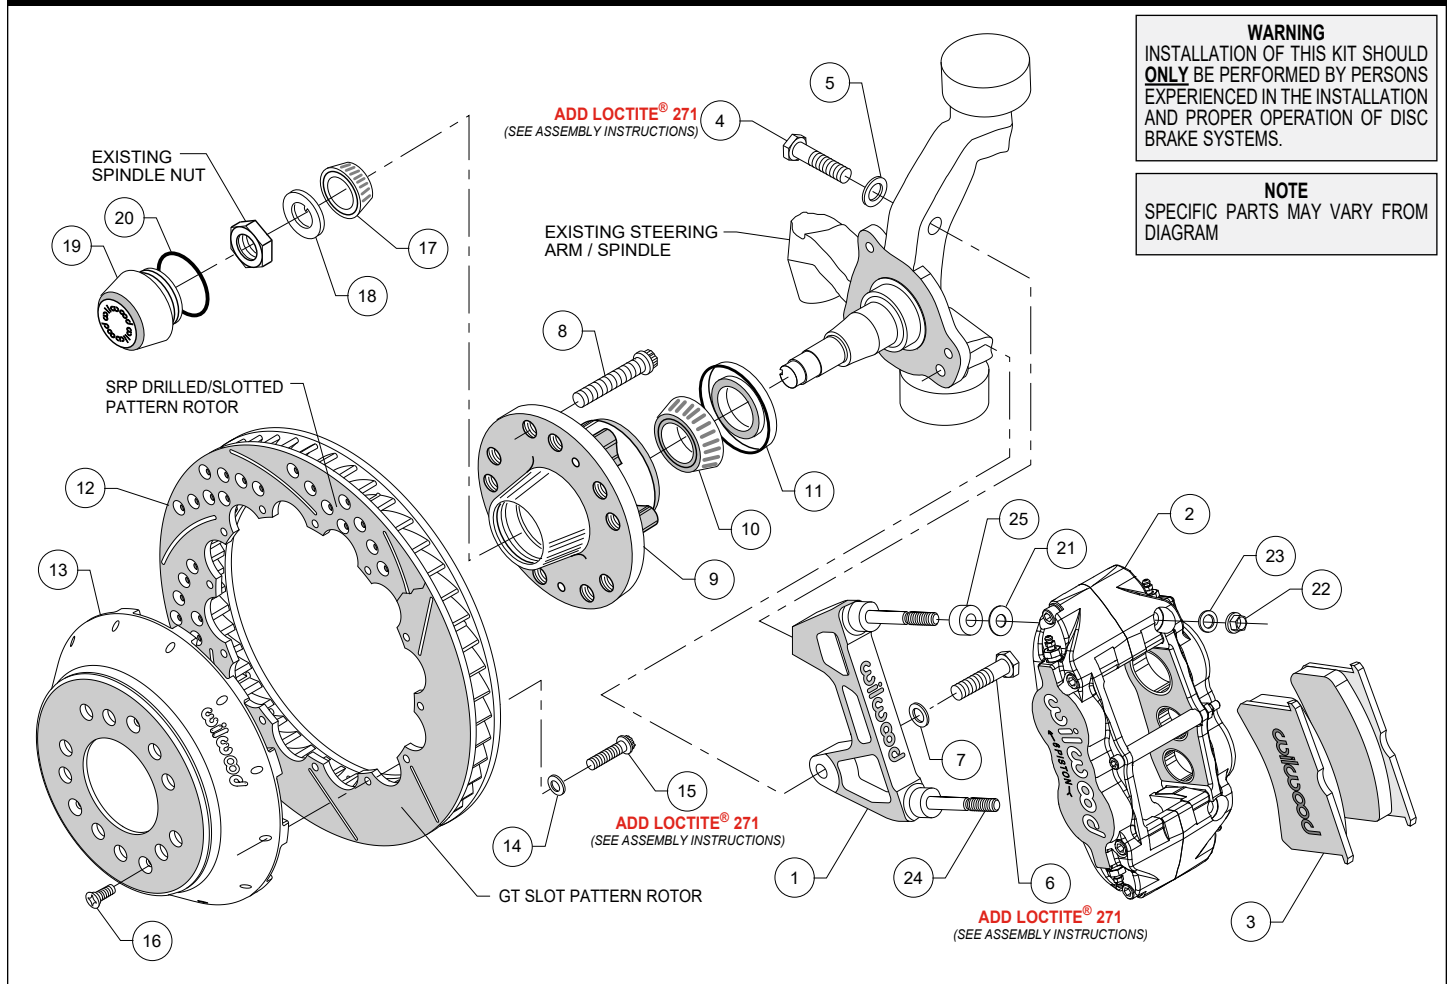

Figure 1. Typical Installation Configuration
NOTE: Numbers in parenthesis refer to the parts list and Figure 1 on the preceding pages.
- Slide the rotor/hat assembly over the studs (8) in the hub (9) taking care to align the small countersunk holes in the hat (13) with the small threaded holes in the hub (9). Install three flat head socket head screws (16) through the small holes in the hat (13) and torque to 85 **in-lb**. Check to be sure the hat seats squarely against the spindle.
- NOTE:** *This kit contains distinct right and left hand calipers that must be mounted in a specific direction, as described below.* Initially place one .035" thick shim (21) and spacer (25) on each stud as shown in Figure 1. Mount the caliper (2) onto the bracket (1) using lock nuts (22) and washers (23), Figure 1. Ensure that the caliper is mounted so that the largest pistons are at the rotor exit end of the caliper, in relation to the direction of rotor rotation.
- Remove the caliper center bridge pad retainer bolt, nut, and tube from the caliper. Slide the brake pads (3) into place. They should install easily without interference. Check that the outside radius of the brake pad is aligned with the outside diameter radius of the rotor face. Add or subtract shims (21) between the caliper and mount bracket to gain the proper alignment, reinstall the caliper and torque the caliper nuts (22) to 28 ft-lb. Reinstall the center bridge pad retainer tube, bolt, and locknut. The locknut should be snug without play in the bolt or tube. Be cautious not to over tighten.